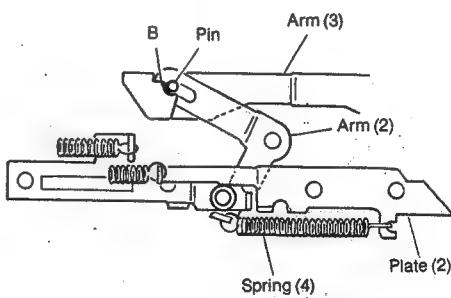

Fig. 5
5. With Plate (2), moving rightward, as mentioned in 1~3 above, Arm (2), through tension of Spring (4), acts to lower the cassette holder pin (see Fig. 5). However, this pin, which is supported by point B of Arm (3), is left stopped through its own inertia.